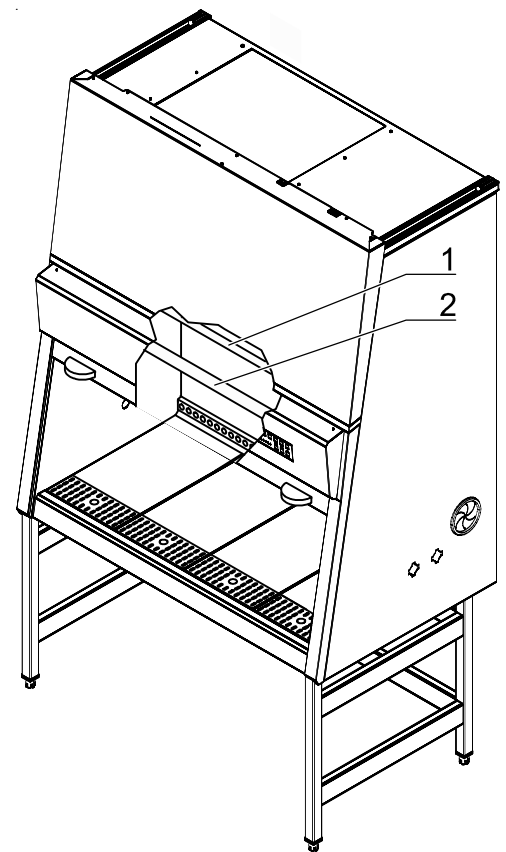

Fig. 17
**Fig. 17:** The optional, device-integral UV lamp [1] is installed to the sample chamber ceiling immediately behind the front window. The UV lamp should be replaced after 1500 operating hours.